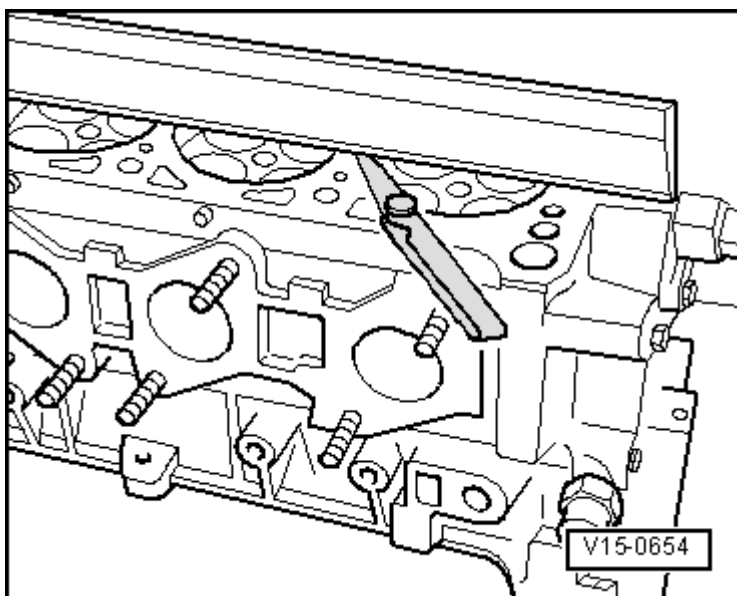

Fig. 2: Identifying Check Of Cylinder Head For Distortion
- Checking for distortion, refer to **Fig. 2**.